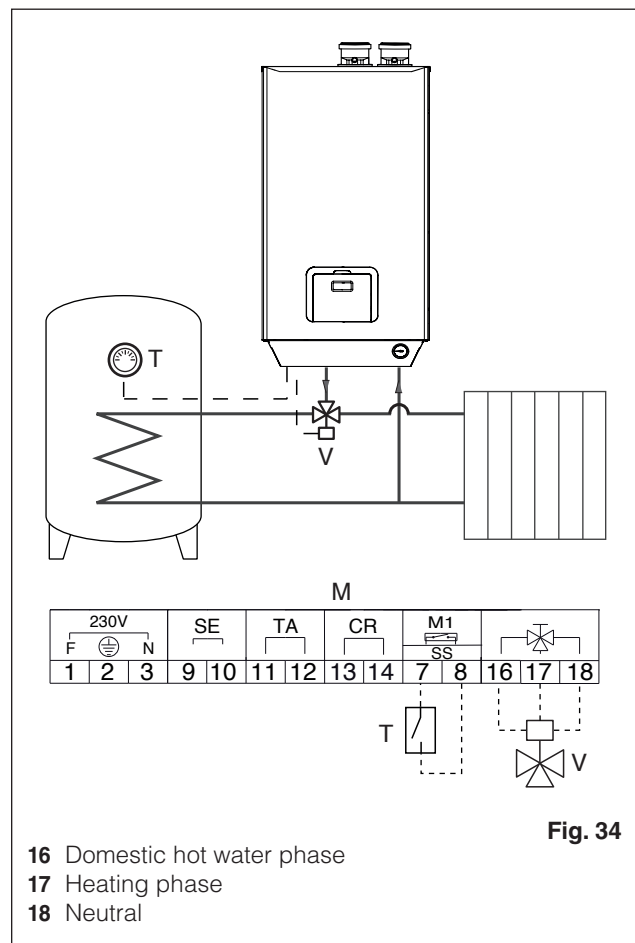

Fig. 34
- complete the water circuit shown in Fig. 34
- connect the electrical connections for the diverter valve (V) to contacts 16, 17 and 18 on the boiler's terminal board (M)
- connect the contacts for the storage tank's adjustment thermostat (T) to contacts 7 and 8 on the boiler's terminal board (M)